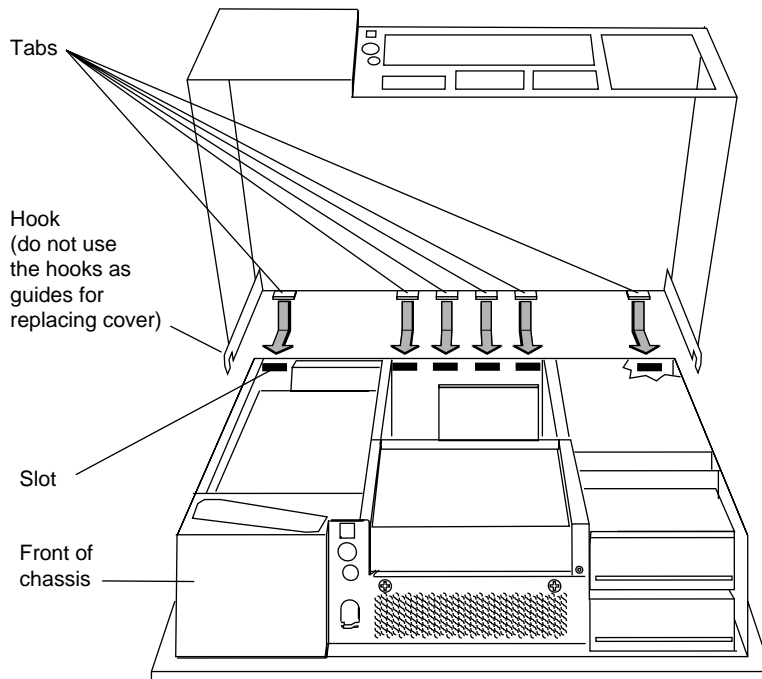

Figure 4-16 Replacing the Top Cover
1. Locate the tabs on the inside and back of the top cover and the slots on the back of the workstation. See Figure 4-16.